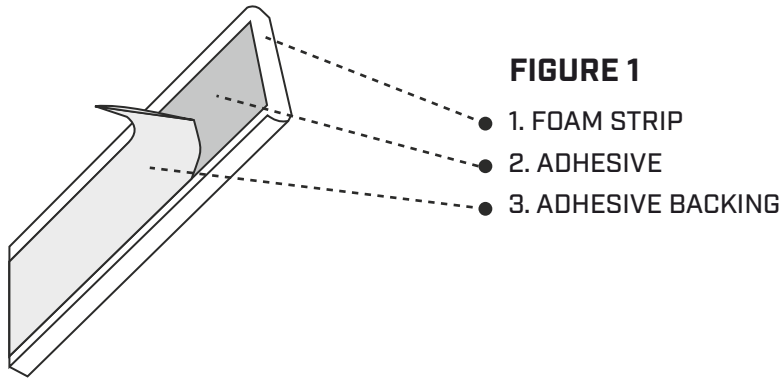

FIGURE 1
2. REMOVE THE ADHESIVE BACKING TAPE FROM THE FOAM STRIP. [SEE FIGURE 1 & 2]